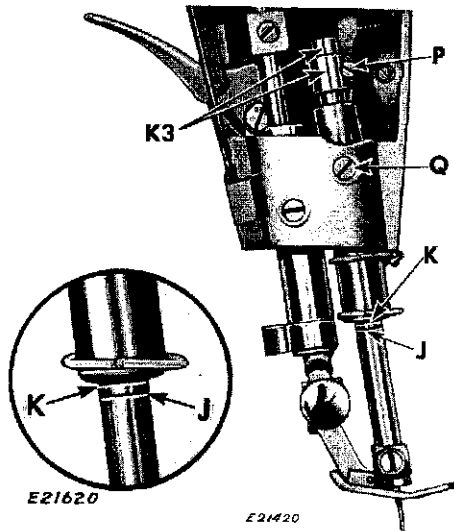
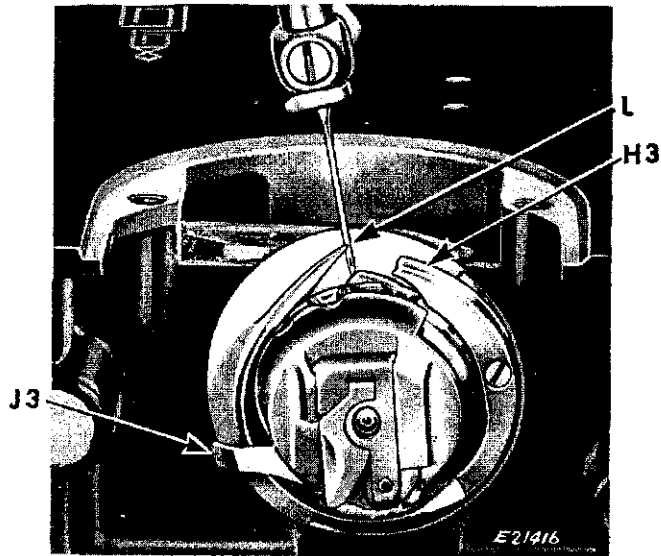
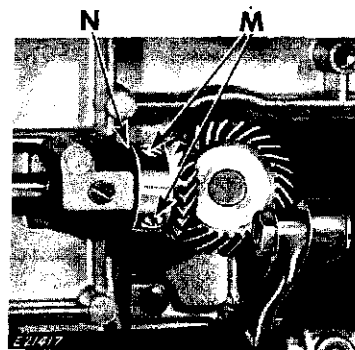
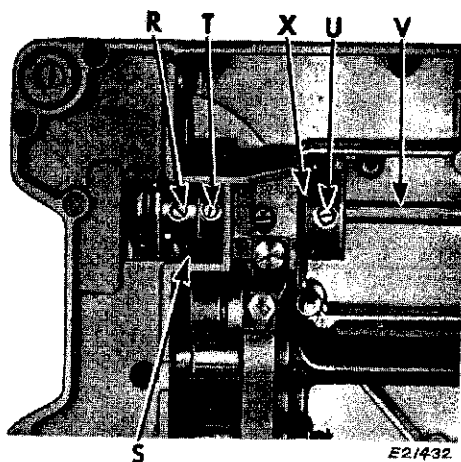

Fig. 6. Timing Rotating Hook
Fig. 7. Relation of Needle to Rotating Hook
Fig. 8. Adjusting Gears For Correct End Play
Fig. 9. Removing and Replacing Rotating Hook and Replacing Hook Shaft
1. Remove presser foot and throat plate. (Feed dog has been removed in Figs. 6 and 7 for clearer view, but it need not be removed to time rotating hook.)
2. Turn hand wheel over toward you until lower timing mark J, Fig. 6 on needle bar is aligned with lower end of the needle bar bushing at K on upward stroke of needle bar
3. If needle bar is at correct height and in position described in paragraph 2 above, and if hook is correctly timed, then point of hook should be at center of needle and approximately 1/16" above eye of needle as shown at L, Fig. 7. Gib H3 of rotating hook is shown broken away and bobbin case base is moved around so that position finger J3 is out of the way in Fig. 7 for clearer view of needle and point of hook.
2. Loosen two set screws M, Fig. 8 in gear at right hand end of hook shaft
3. Turn hook until its point is in proper relation to needle as explained above and shown in Fig. 7
4. Tighten two screws M, Fig. 8, maintaining proper backlash to ensure correct gear mesh
NOTE: Hub of gear should never bear against face of bushing at N, Fig. 8
To set needle bar at the correct height, the rotating hook must first be timed correctly as described on page 5. Then turn the hand wheel over toward you until the needle bar reaches its lowest point as shown in Fig. 6. With the needle bar in this position, the upper timing mark should be in alignment with the lower end of the needle bar bushing as shown at K, Fig. 6.
If the needle bar is not set at the correct height, loosen the screw P, Fig. 6 behind the face plate and move the needle bar up or down until the correct setting is acquired and then securely tighten the screw P.
The needle bar bushing is accurately set at the factory and needs no adjustment. If its position has been disturbed, however, turn the hand wheel over toward you until the point of the hook, on the upward stroke of the needle bar, is at the center of the needle and approximately 1/16" above the eye of the needle as shown in Fig. 7. Loosen the bushing set screw Q, Fig. 6 and move the bushing up or down until the lower timing mark J, Fig. 6 on the needle bar aligns with the lower end of the bushing at K, Fig. 6. Then tighten the set screw Q.
1. Adjust the needle bar bushing until the recess in the bushing is visible through the set screw hole for the screw Q, Fig. 6.
3. Loosen the clamp screw P, Fig. 6 of the needle bar
4. Adjust the needle bar so that the upper timing mark aligns with the bottom of the needle bar bushing as shown at K, Fig. 6, then tighten the needle bar clamp screw P, Fig. 6
5. Loosen the gear screws M, Fig. 8
6. Turn the hand wheel over toward you so that, on the upward stroke of the needle bar, the lower timing mark J, Fig. 6 aligns with the bottom of the needle bar bushing at K, Fig. 6
7. Rotate the hook manually until the hook point is at the center of the needle blade as shown at L, Fig. 7, and then tighten the gear screws M, Fig. 8
8. Turn the hand wheel over toward you until the hook point is at the center of the needle (on the upward stroke of the needle bar) and the lower timing mark aligns with the bottom of the needle bar bushing. (This is to serve as a check on operation 7 above.) Loosen the needle bar clamping screw P, Fig. 6 and move the needle bar up or down until the eye of the needle is approximately 1/16" below the point of the hook. Turn the needle bar until the positioning marks K3, Fig. 6 on the needle bar and the needle bar clamp are in alignment. Tighten the screw P in the needle bar clamp.
10. Loosen the needle bar bushing set screw Q, Fig. 6 and move the bushing up or down until the bottom of the bushing aligns with the upper timing mark on the needle bar as shown at K, Fig. 6, and tighten the screw Q
1. Set and tighten screw T, Fig. 9 of collar so that left hand end of shaft projects $15/32$ " beyond left hand edge of collar
2. Take out end play by setting counterbalance against bushing at X, Fig. 9, pushing collar and counterbalance toward each other, and tightening screw U, Fig. 9 in counterbalance
3. Replace rotating hook on shaft, with set screw R, Fig. 9 (which is on same side of hub as hook point) against flat of hook shaft. Then, while keeping hub of hook against shaft collar, tighten screw R, Fig. 9 which engages flat and then tighten screw on other side of hub. Set gear at right hand end of shaft with clearance between gear hub and bushing, and tighten two screws M, Fig. 8
2. Loosen two screws, only one of which is visible at R, Fig. 9 in hub of hook
1. Turn hand wheel over toward you until flat on hook shaft is visible through opening S, Fig. 9
2. Place hook on shaft so that set screw R, Fig. 9, on same side of hub as point of hook, is set on flat of hook shaft
2. Loosen screw T, Fig. 9 in shaft collar, and screw U, Fig. 9 in counterbalance so that they slide freely on shaft V, Fig. 9
3. Loosen two screws M, Fig. 8
6. Use new shaft (with flats at left end) to push out old shaft from right to left. Insert new shaft through opening in casting from which two pin terminal was removed. Be sure that end of shaft with two flats (for rotating hook screw R, Fig. 9 and shaft collar T and for counterbalance screw U) is at the left